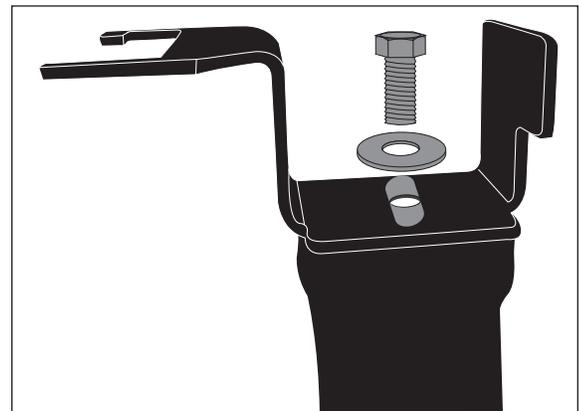

Figure 3
5. Loosely attach the lower bracket (C₁, C₂) to the bottom of the air spring with 1/2" flat washer (L) and 1/2" Hex Head Cap Screw (J). See Figure 3.